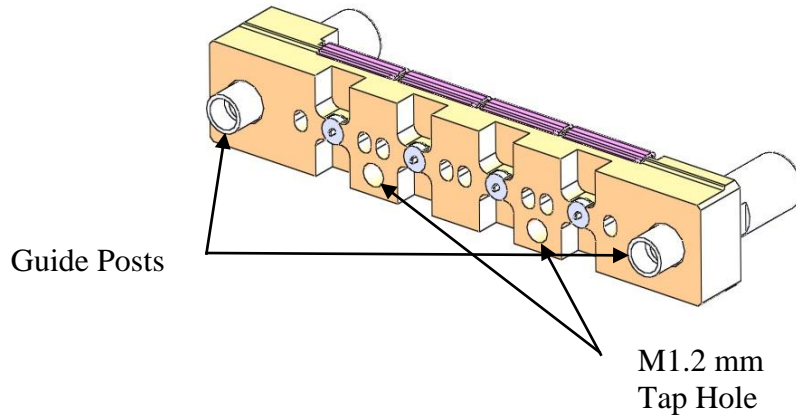

Figure 1: Connector, 4 position, mating interface
3.1. See Figures 1, 2, 3, 4, 5, 6 and 7 for representative views to illustrate Connector, cable and hardware configuration. Views are of 4 position Connector/cable.
4.1. Reference Figures 1, 2, 3, 4, 5 and 6.
4.4. Ensure the guide holes and screw holes orientation prior place connector on the board (Figure 1 & 2).